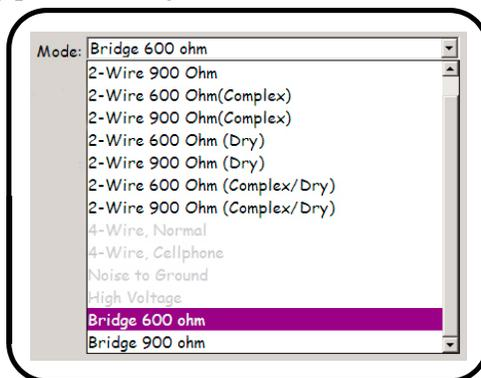

Figure 2 – Select *Bridge 600 ohm*
- c. In the resulting display, locate the "Mode:" window, then click on the corresponding drop down arrow, and select "Bridge 600 ohm" as illustrated in *Figure 2*, above.